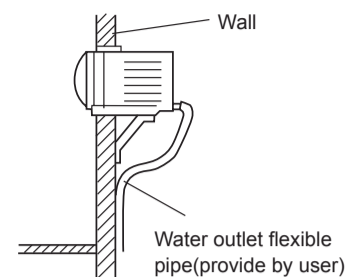

Fig.1
2. Put the whole machine with all the accessories installed, on the iron frame. If there's water outlet flexible pipe, lead it to needed position (see Fig.1).